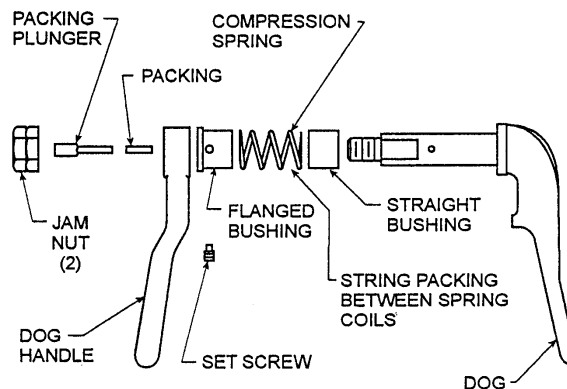
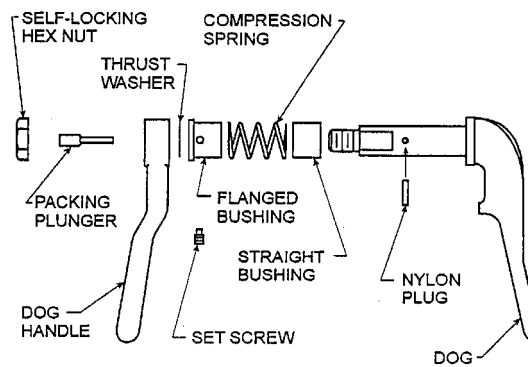

Figure 600-2.32. Individually Dogged Door Dog Assembly (Cross Sectional View)
Figure 600-2.33. Individually Dogged Door Dog Lever Assembly (Cross Sectional View) Modified by MACHALT 167-31004 (ECP-444)
Ensure the straight bushing is firmly seated against the back of the dog and is free of dirt, corrosion, and paint. Ensure the flanged bushing is firmly seated against the end of the dog sleeve and is secured in place by its dog point setscrew. See figure 600-2.32. Setscrews are often painted over and may be difficult to locate. Remove paint as necessary to inspect for loose, missing, or broken setscrews. For self-lubricated bushings, there should be a CRES thrust washer between the dog lever and the face of the flanged bushing. See figure 600-2.33.
- i. Ensure both jamnuts or self-locking hex nuts are in place on each dog assembly. Jamnuts should be locked tightly together. Remove any paint or dirt from the bushings with a wire brush and a clean rag. The straight bushing should not be stuck in the spindle sleeve and should rest against the back of the dog. If the bushing is jammed or stuck in the sleeve, bushing must be removed and the interior of the sleeve cleaned out and lubricated to ensure a free sliding fit. See figures 600-2.32 and 600-2.33.